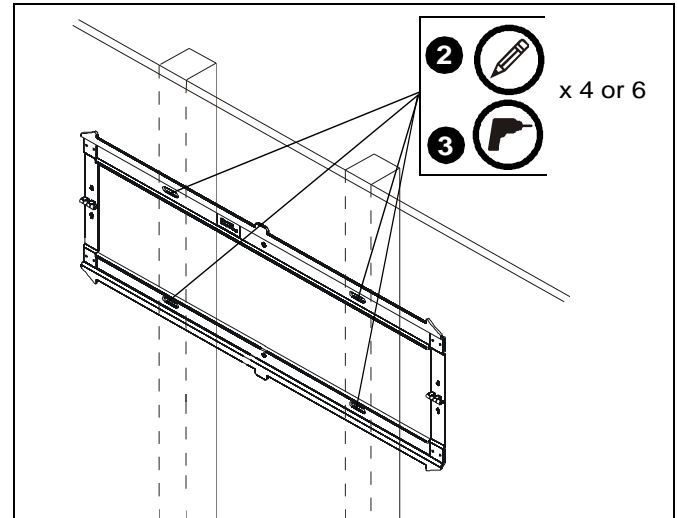

Figure 2
2. Level wall plate (A) and mark locations of pilot holes. (See Figure 2)
3. Drill 7/32" (5.5mm) diameter pilot holes into wood studs at marked locations. (See Figure 2)